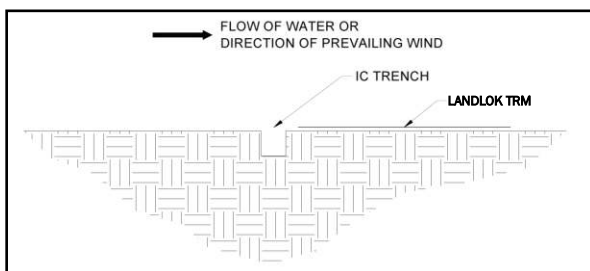

Figure 4: Initial Channel (IC) Trench Alignment
2. Lay the LANDLOK panel on the downstream side of the IC trench (Figure 4). Place the panel edge in the IC trench, ensuring full coverage along the bottom of the entire IC trench with the LANDLOK (Figure 5).